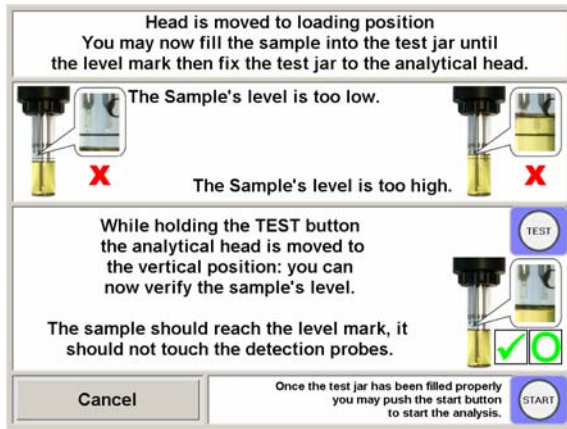

Figure 11: Start Analysis Panel
1. Once the analysis has been setup as described in previous section, press the **Start Analysis** button, the panel shown in Figure 11 will pop up and the head will be moved to the loading position; the user can now easily remove the test jar, fill it as required then refix the test jar in its position.
2. As described in Figure 11, **press and hold** the **TEST** button; while the **TEST** button is pressed, the head is moved to the vertical position to verify the sample's level: it should not touch the twins detection probes, by releasing the **TEST** button the head will return to the loading position: you may now correct the sample's level then again press and hold the test button and repeat the procedure as needed to obtain the proper sample's level.